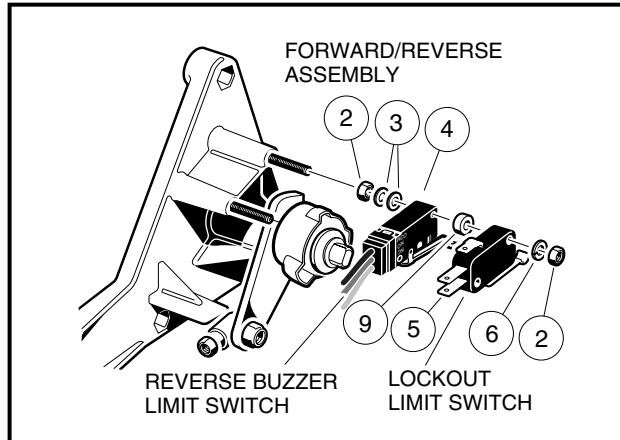

Figure 12-21 Lockout Cam and Reverse Buzzer Limit Switches
3. Disconnect the wires from the lockout cam limit switch (5) located on the back of the Forward/Reverse shifter assembly (**Figure 12-21, Page 12-18**).
4. Remove two nuts (2) and washers (6) from the lockout cam limit switch (5) and slide the lockout cam limit switch off of the screws.
1. Install the limit switch (5) with washers (6) and nuts (2) and tighten to 5 in-lb (0.6 N·m) (**Figure 12-21, Page 12-18**). Place the Forward/Reverse handle in REVERSE to make sure that both switches actuate. See following **CAUTION**.
3. Disconnect the wires from the reverse buzzer limit switch (4) located on the back of the Forward/Reverse assembly (**Figure 12-21, Page 12-18**).
4. Remove the nuts (2) and washers (6) from the lockout cam limit switch (5) and slide the lockout cam limit switch off of the screws. Do not disconnect the wires.
5. Remove the spacers (9) from the reverse buzzer limit switch (4) and slide the reverse buzzer limit switch off the screws.
4. Connect the orange wire to the black wire (COM) terminal and the red/white wire to the blue wire, normally open (NO) terminal of the reverse buzzer limit switch (4) (**Figure 12-21, Page 12-18**).